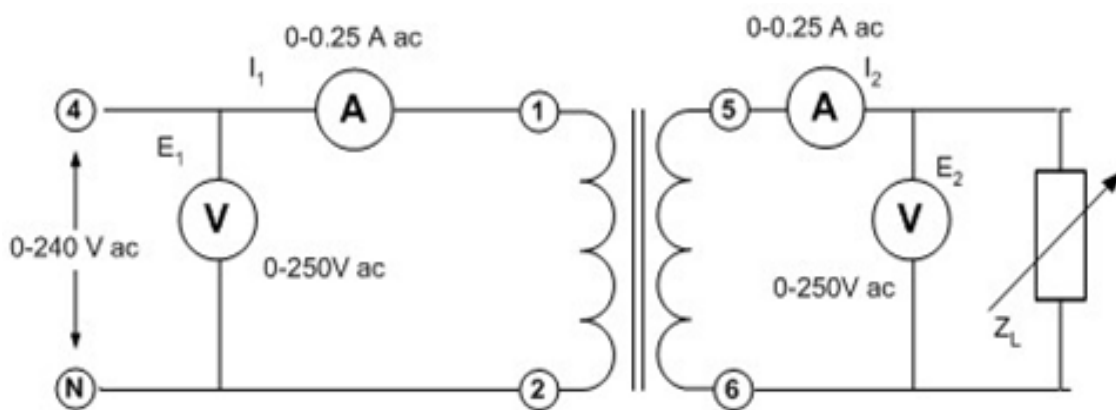

Figure 1: Connection diagram to measure voltage regulation
1. Using our transformer, Power Supply, Resistive Load, AC Ammeter and AC Voltmeter, resistive, inductive and capacitive load connecting the circuit shown in Figure 1.